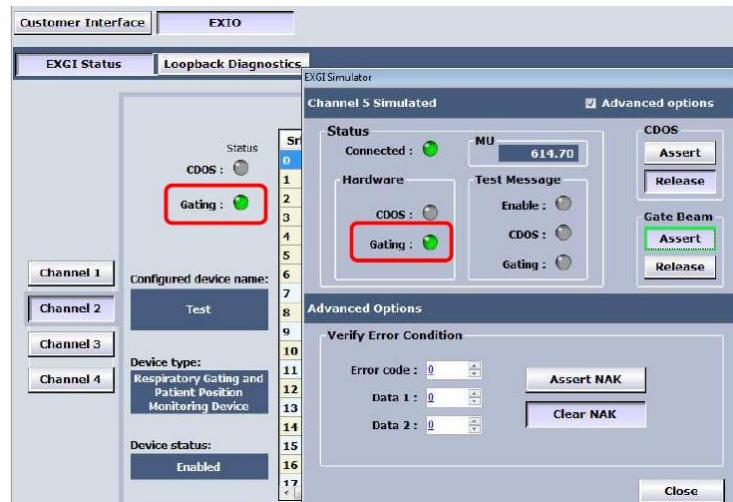

Figure 58: Successful of Gate Beam Assertion Test
5. With the EXGI Simulator, click “Assert” and “Release” **Gate Beam** for each Gating Device channel. See Figure 58 for an example of a successful **Gate Beam** assertion test.